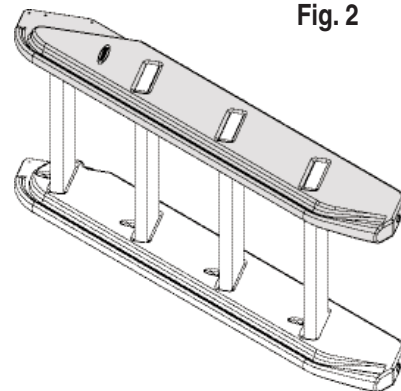

Fig. 2
3. Insert the right (R) step side rail on top of the existing boards until the standard boards are flush with the outside of the side rail. **(Fig. 2)**